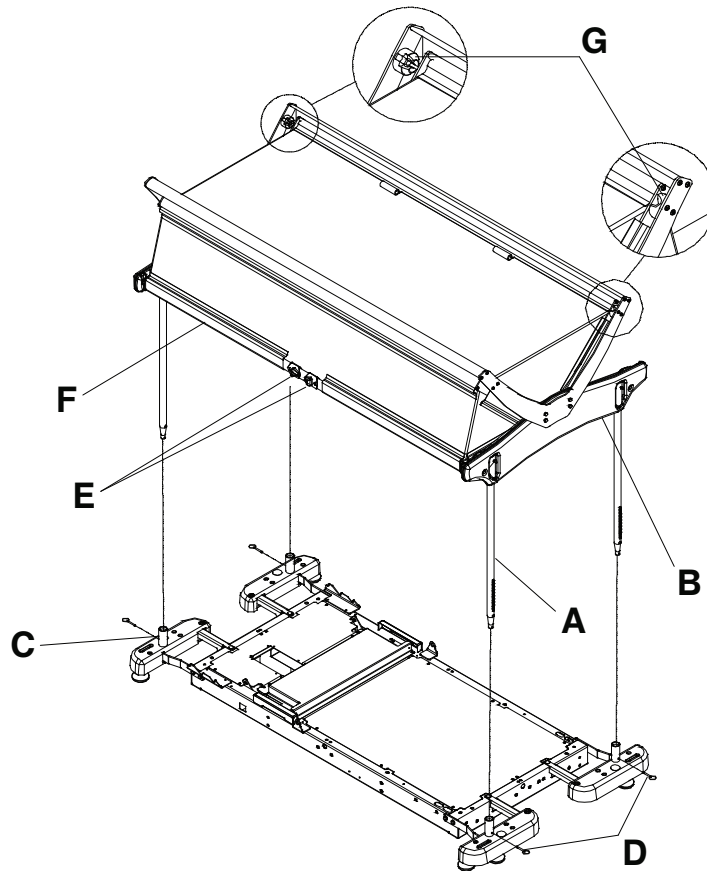

Figure 17 – Protective top with supports
1. Press the lock pin located on the top section of each post (A) and insert the post into the slot of the plastic structure (B) (Figure 17). Repeat for the other posts.
2. Install the four posts in the accessory bracket sockets (C) (Figure 17).
3. Using a 9/16 in. wrench, lock the posts in the accessory bracket sockets with the four hitch pins (D) (Figure 17).
1. To partially open the protective top, squeeze the two release knobs (E) and lift the lower rail (F) until the anchor points are passed (G) (Figure 17). Release the knobs and lower the rail until it rests on the anchor points.
2. To completely open the protective top, squeeze the two release knobs (E) and lift the lower rail (F) to the maximum height and release the knobs (Figure 17).
3. To close a partially open protective top, lift the lower rail (F) from the anchor points (G) and squeeze the two release knobs (E) while lowering the rail to the closed position (Figure 17). Release the knobs.
4. To close a completely open protective top, squeeze the two release knobs (E) and lower the lower rail (F) to the closed position (Figure 17). Release the knobs.